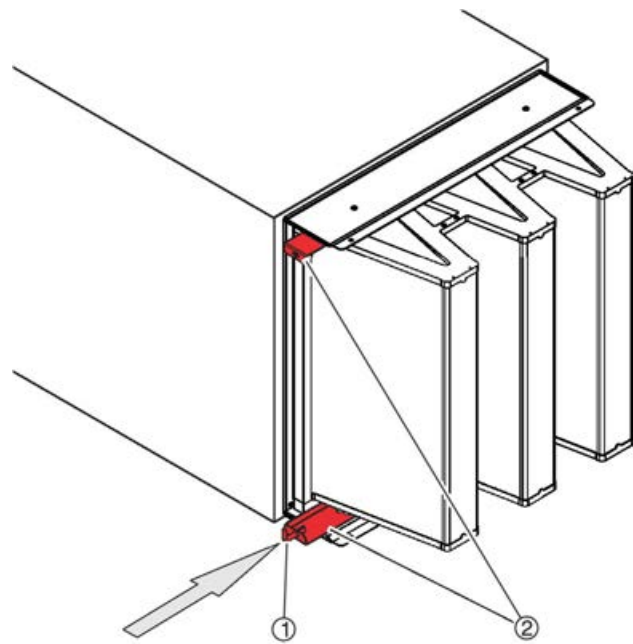

Fig. 27: Pushing the clamping rails in
7. ▶ Use the special key (Fig. 27 /1) to push the clamping rails (Fig. 27 /2) in as far as they will go.